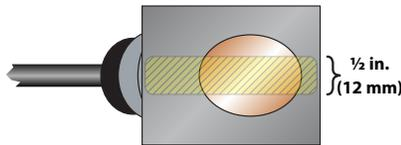

Figure 6: Transducer bottom view
4. Apply contact gel to the underside of the transducers. Place a single bead of couplant, approximately 1/2 inch (12 mm) thick, on the flat face of the transducers. See Figure 6. Generally, a silicone-based grease is used as an acoustic couplant, but any good quality grease-like substance that is rated to not flow or shrink at the operating temperature of the pipe is typically acceptable.